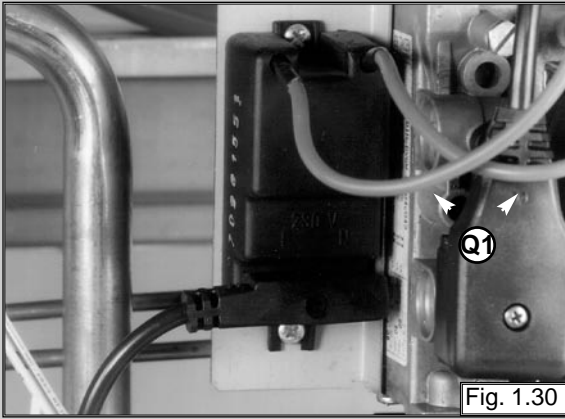

Fig. 1.30
1. Disconnect ignition leads "Q1" by pulling upwards (see fig. 1.30);